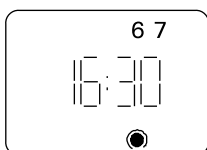

Figure 9.
- press [day] -button to set desired day of the week for system to come on (Fig. 9)